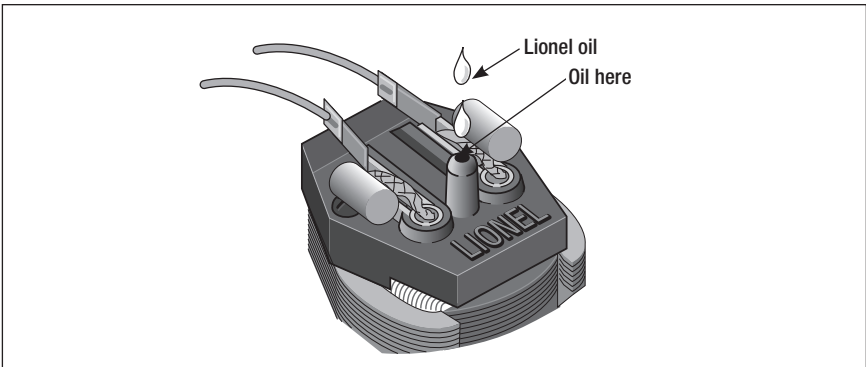

Figure 4. Pullmor motor lubrication
2. Apply a small amount of Lionel oil (two drops) in the hole at the top of each motor. See Figure 4.